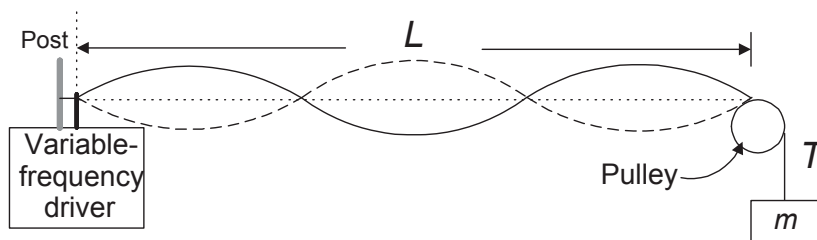

Figure 1.2: Standing waves on a string
Standing waves can be produced when two waves of the same frequency and amplitude travel in opposite directions in the same medium. In this experiment waves are produced on a string by a variable-frequency driver, and they reflect at the other end of the string, which is held fixed by passing it over a pulley, as shown in Fig. 1.2. A
gives the wavelength λ_n of a standing wave. The integer n is the number of wavelengths in a round-trip on the string of length L . The points at which the string remains at rest are nodes, while the points with maximum displacement are antinodes. It is easy to determine n by counting the loops or the number of antinodes along the string. Thus, for example, in Fig. 1.2, $n = 3$. Because only certain wavelengths form standing waves, there are only certain frequencies that can be used to produce them. Combining Eqs. (1.4) and (1.5) gives
- For this part, stand the driver so its piston moves vertically. A string should be attached by the hook to the post beside the driver shaft. You can place the other end over the pulley clamped at the opposite side of the table, as in Fig. 1.2. Hang a 200-gram mass on this end of the string to provide a known tension T .